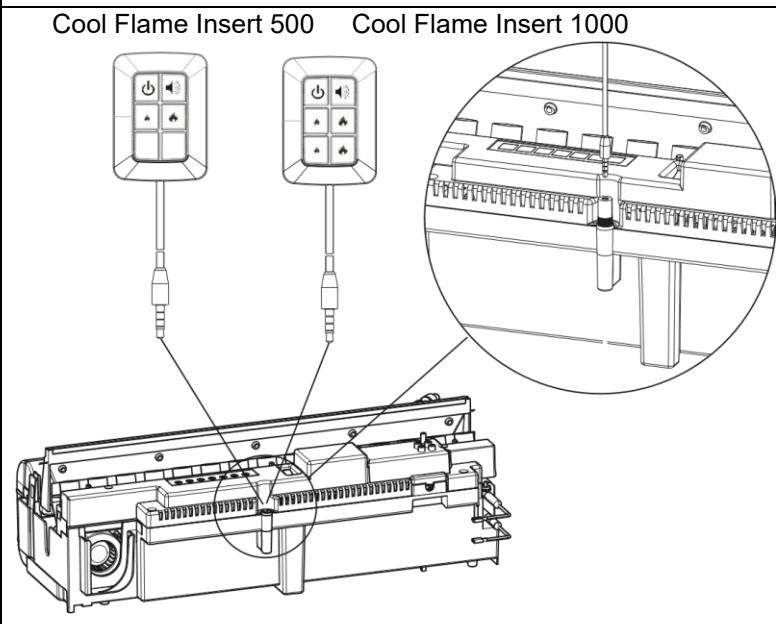

Fig 10
3. Disconnect the fill cap from its position on top of the sump (Fig 30) or remove water bottle if used (Fig 10 & 11).